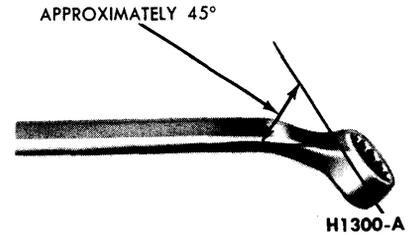

FIG. 7—Wrench for Bleeding Brake Hydraulic System
2. To bleed the secondary (rear) brake system, position a suitable 3/8 inch box wrench (Fig. 7) on the bleeder fitting on the brake wheel cylinder. Attach a rubber drain tube to the bleeder fitting. **The end of the tube should fit snugly around the bleeder fitting.**
4. If the rear wheel cylinders and the secondary brake system is to be bled, position a 3/8 inch box wrench (Fig. 7) on the bleeder fitting on the right rear brake wheel cylinder. Attach a bleeder tube to the bleeder fitting. **The end of the tube should fit snugly around the bleeder fitting.**